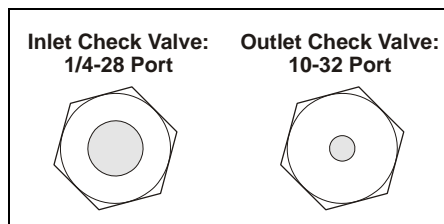

Figure 5-7. Check Valve Housings
**NOTE** The housing for the *inlet* check valve assembly has a 1/4-28 port. The housing for the *outlet* check valve assembly has a 10-32 port (see Figure 5-7).